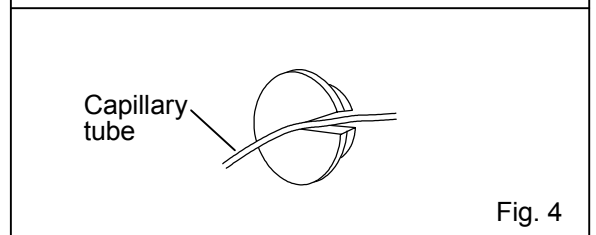

Fig. 4
◇ Make a cut on the caps for access port to pass the capillary tube as shown in the Fig. 4.
4. Remove the caps (both outside and inside) covering the access port for refrigerator and take out the thermal insulation in the access port. Pass the recorder sensor to the refrigerator through the access port [Fig. 4]. Then replace the thermal insulation and caps (both outside and inside). Also, replace the cap on the port for taking out the recorder sensor.
4. Remove the caps (both outside and inside) covering the access port for freezer and take out the thermal insulation in the port. Pass the recorder sensor to the freezer through the access port [Fig. 4]. Then replace the thermal insulation and caps (both outside and inside). Also, replace the cap on the port for taking out the recorder sensor.
4. Remove the cap on the port for taking out the recorder sensor and take out the recorder sensor. Then set the temperature recorder with the recorder fixing to the space for temperature recorder. [Fig. 4]